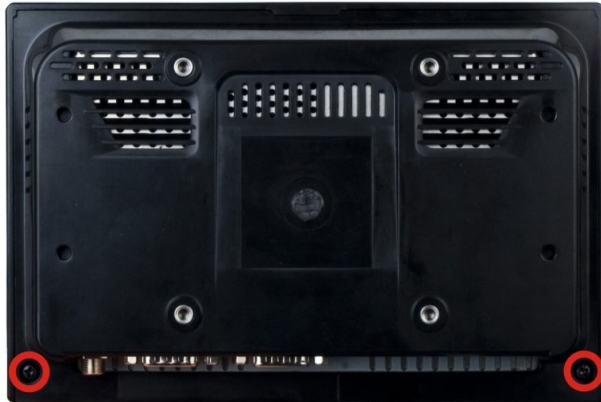

Figure 3-1: Back Cover Retention Screws
- Step 1:** Remove two (2) retention screws from the back cover (**Figure 3-1**).